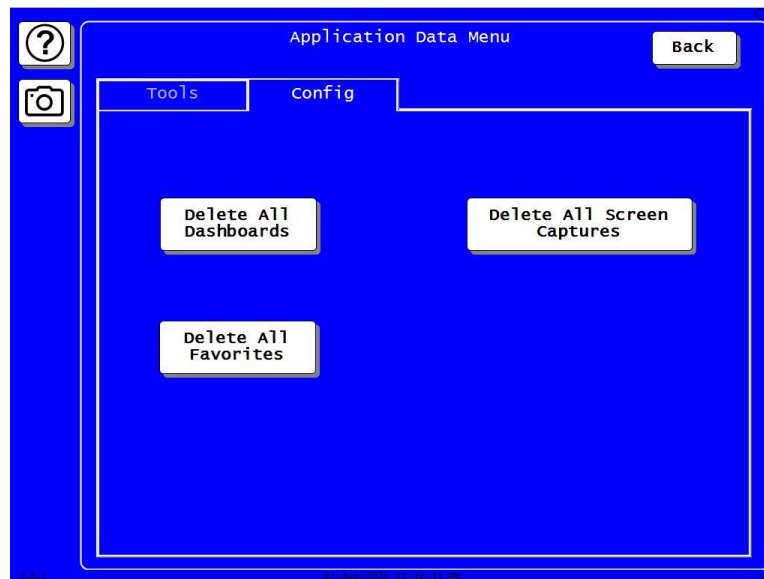

Figure 3-35. Application Data Menu, Configuration
2. Press the Config Tab, Figure 3-35